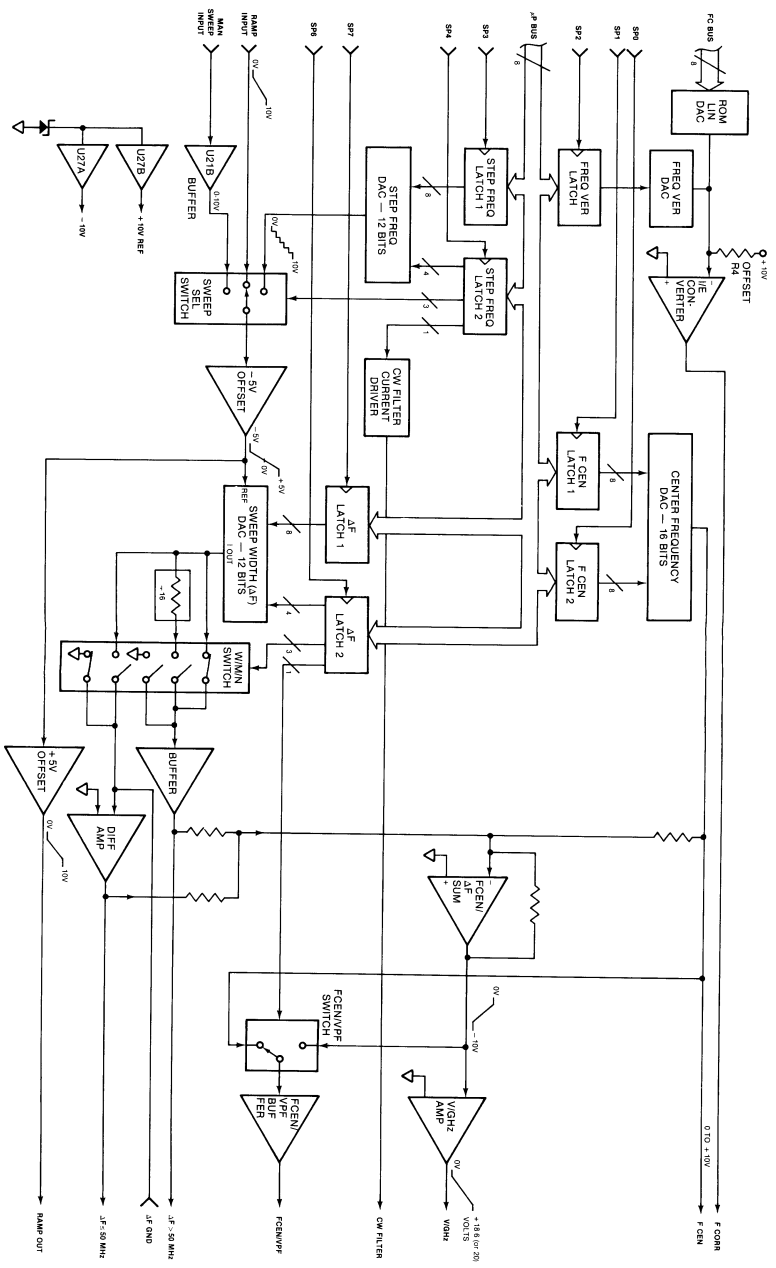

Figure 7-53. A5 Frequency Distribution PCB Functional Block Diagram
The A5 Frequency Instruction PCB provides YIG oscillator tuning voltages to the A6, A7, and A8 YIG Driver PCBs, plus a narrow ( $\leq 50$  MHz) sweep tuning voltage ramp to the A10 FM/Attenuator PCB. The A5 PCB also supplies the YIG Driver PCBs with a regulated +10 Vdc, which is used as an oscillator-bandswitch reference voltage. A functional block diagram of the A5 PCB is shown in Figure 7-53, and the schematic (2 sheets) is shown in Figure 7-54.
The three main YIG tuning voltages supplied by the A5 PCB (Figure 7-53) are the **F CEN**,  **$\Delta F > 50$  MHz**, and **F CORR** signals. These three signals are summed together at the YIG Driver PCBs and used to generate the YIG oscillator tuning current.
When the L HET PIN SELECT lines is FALSE, it reverse biases A14CR17 (figure 7-53, Sheet 3). Reverse biasing CR17 causes A14Q9 to turn on. When on, Q8 sources current into the PIN Switch and provides high attenuation between J1 and J5 - the RF OUT port.
The input to the PIN Driver/Linearizer (A1C) PCB. This circuit has two functions: (1) It provides the Band 1 AIC-Loop-gain adjustment, and (2) it makes linear the relationship between the A5 level and the level of the output in dBm. Control for the PIN Driver/Linearizer circuit is provided by the H YIG SEL line from the E/I Converter circuit. The H YIG SEL line is TRUE when the Band 1 YIG is supplying the output frequency. The output from this circuit is a current, MOD DRIVER 1. This current is supplied to the MOD (Modulator) component, on the RF Components Deck, via A14R34 (figure 7-53, Sheet 3).